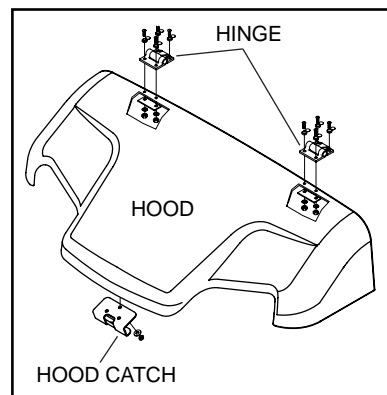

Figure 5
1. Remove two capscrews and washers (Figure 5) from each hinge securing the hood to the dashboard.
1. Install hinges (Figure 5) on the hood and secure with two capscrews and washers. Tighten capscrews to general torque specifications.